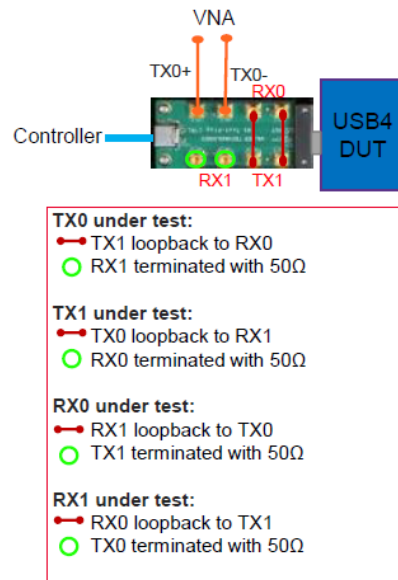

Figure 79 SMP test fixture - Tx/Rx lane switching
- In case of SMP test fixture, Tx/Rx lane under test can be switched as shown in Figure 79.